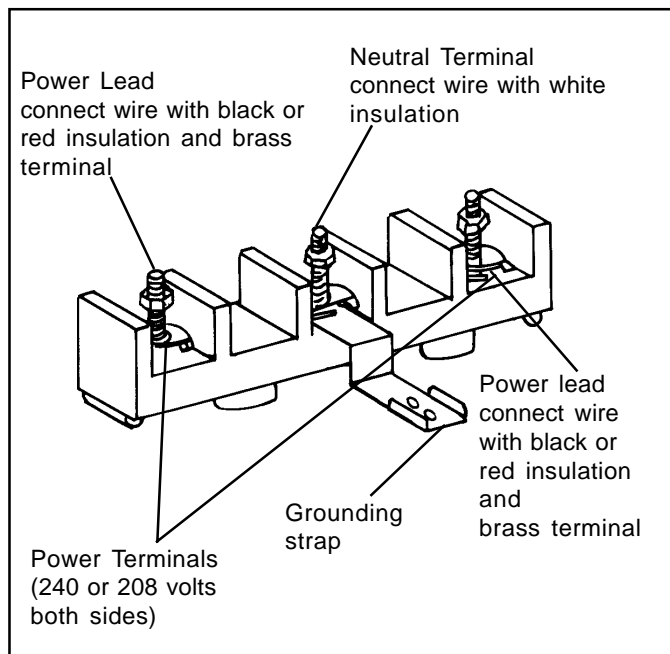

Figure 5
Connection block is located at bottom rear of range behind rear cover panel. (Figure 5) Remove rear cover screw. Directly below terminal block is a hole for a power supply service cord. Power cord is not supplied with range.
4. Attach power lead, red wire or black wire to left side power terminal. (Figure 5)